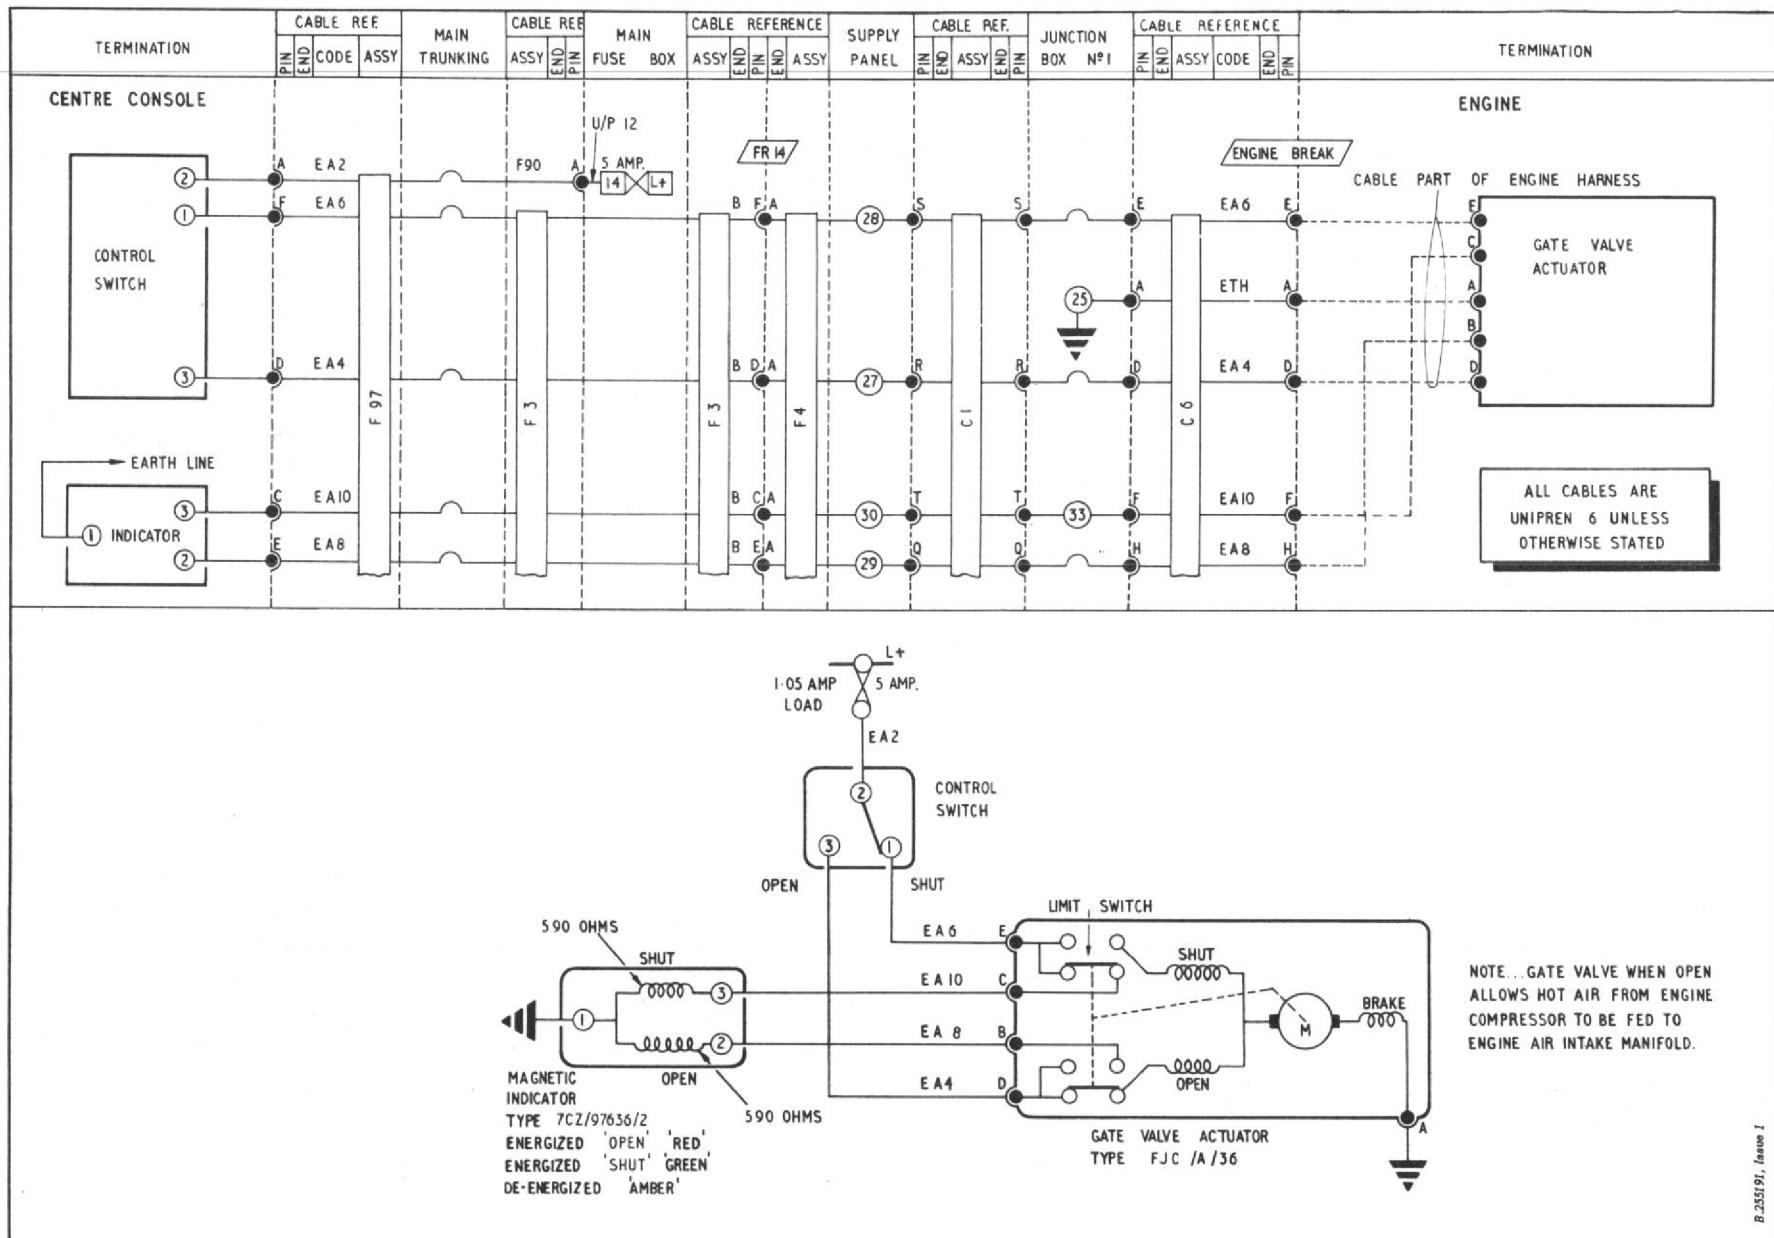

Fig.1. Engine anti-icing (routing and theoretical)
3. The diagram of the circuit (fig.1)